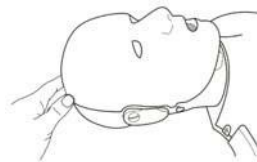

Figure 4
4. Tilt back the head of the manikin (Figure 4).